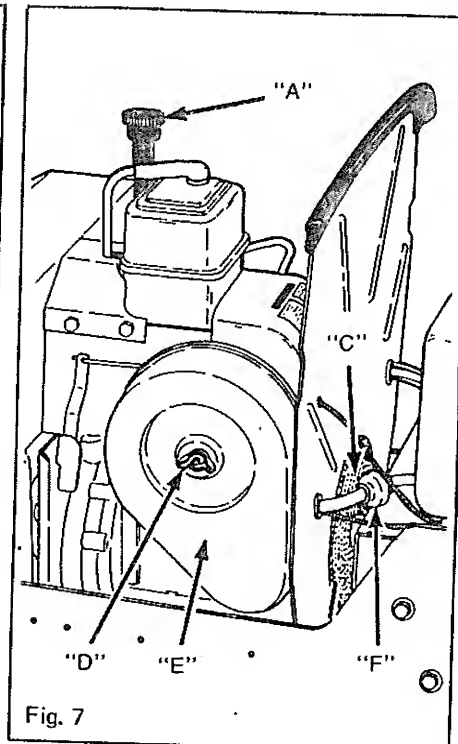

Fig. 7
Clean flywheel air screen (C), Figure 7 & 9, frequently. A dirty air screen and/or engine cause the engine to overheat and damage the engine.
1. Remove wing nut (D), Figure 7 on air cleaner.
2. Remove cover (E) to reach paper air cleaner element.
There is a fuel filter (F), Figure 7 & 9, in the line from the fuel tank. This filter is a throw away type.